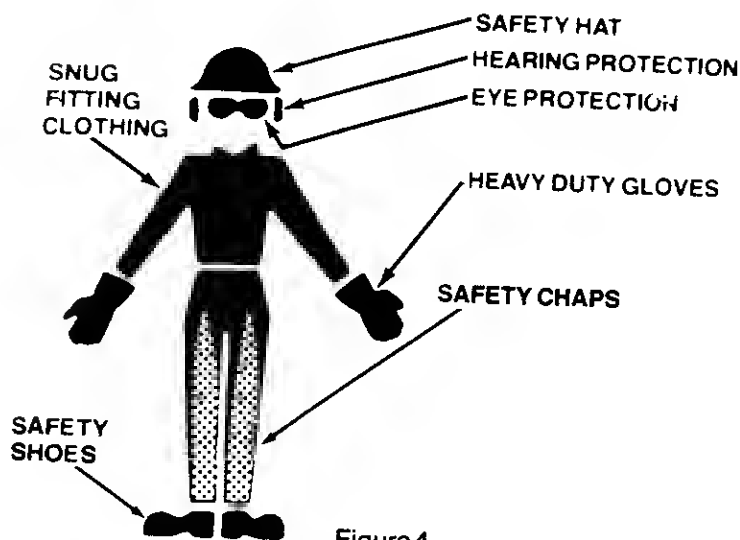

Figure 4
1. Wear protective gear. Figure 4. Always use steel-toed, safety footwear with non-slip soles; snug-fitting clothing; heavy-duty, non-slip gloves; eye protection such as non-fogging, vented goggles or face screen; an approved safety hard hat; and sound barriers — ear plugs or mufflers to protect your hearing. Regular users should have hearing checked regularly as engine noise can damage hearing.